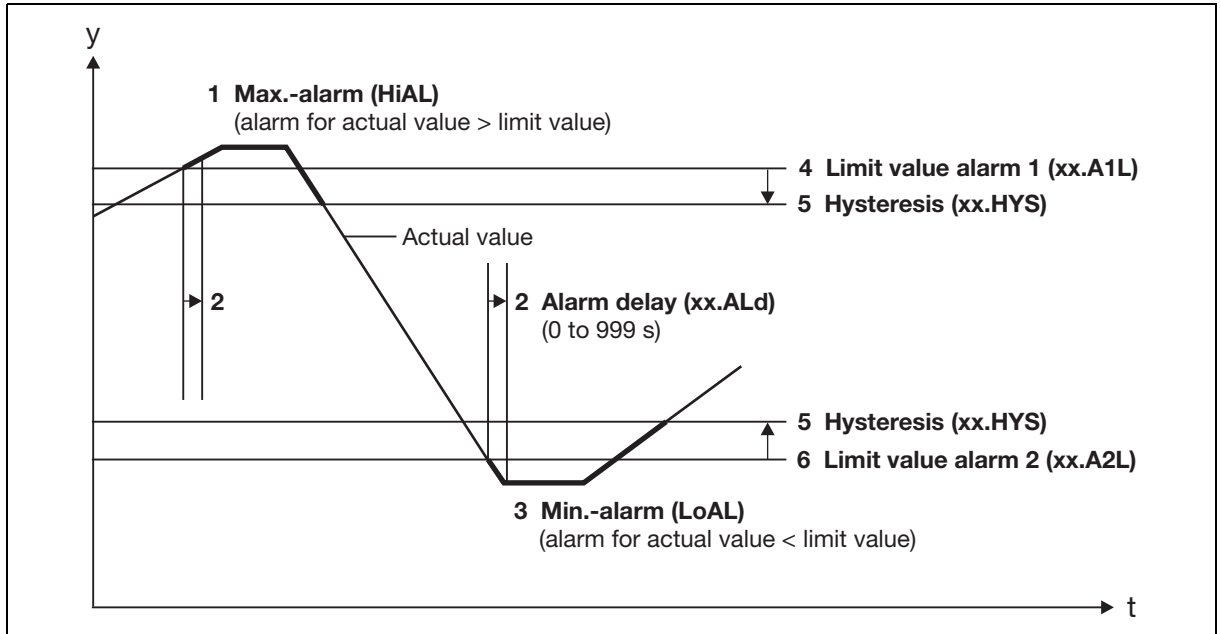

Fig. 9-4 Setting the alarm functions
An alarm is issued when the positive limit value is exceeded (after the alarm delay time has elapsed), not taking the hysteresis into account (see Fig. 9-4, item 1).
An alarm is issued when the negative limit value is not met (after the alarm delay time has elapsed), not taking the hysteresis into account (see Fig. 9-4, item 3).
The limit value for the selected alarm type 1 and 2 is set here (see Fig. 9-4, item 4 and item 6).
The hysteresis is the difference between the set limit value alarms. 1 or 2 is always set as a positive value for the Max. alarm and Min. alarm (see Fig. 9-4, item 5).
This parameter is used to suppress short-term faults (see Fig. 9-4, item 2). The alarm signal is only activated after the set time has elapsed and the limit value overrange or underrange is still pending.